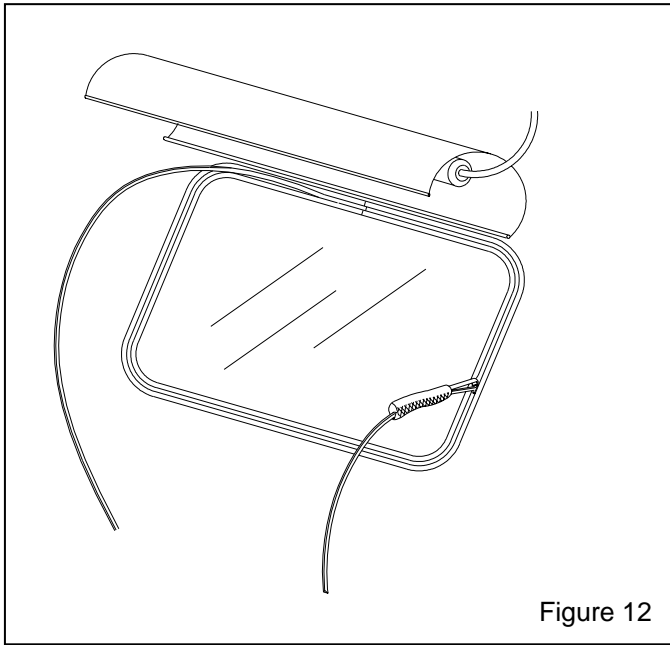

Figure 12
**6.3.10.** Feed the filler strip while pulling the tool through the top of the channel, down the side and across the bottom until that end of the strip is in place. Ref. Figure 12.